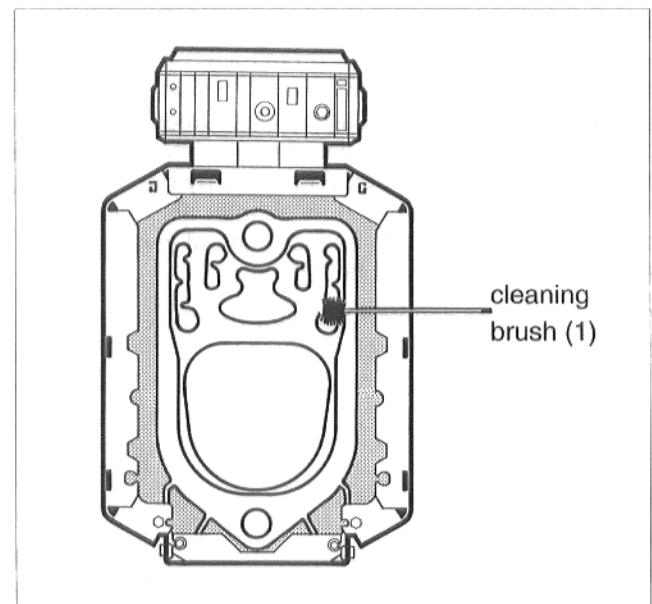

Fig. 35
- Clean the side flue gas channels (Fig. 35) with the cleaning brush (1). Cleaning is performed by a horizontal and rotating movement of the cleaning brush.